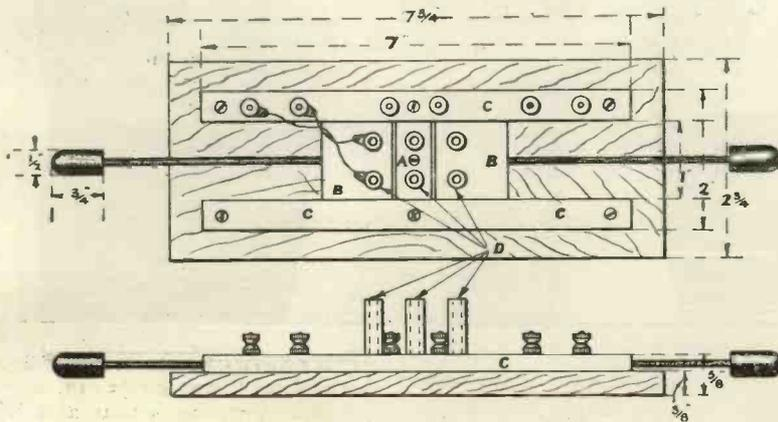
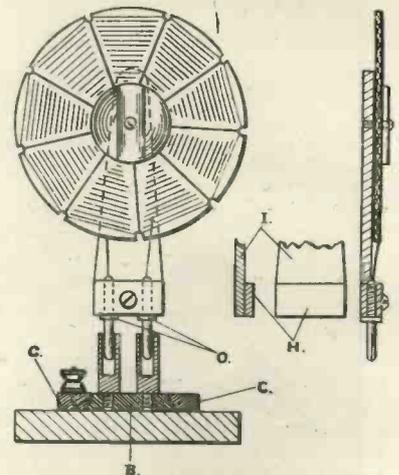

Fig. 1.—Plan and elevation of the tuning stand.
Fig. 2.—Cross-sectional view.
Referring to the sketches, Fig. 1 is the plan and elevation of the instrument, and Fig. 2 a cross-sectional end view with a coil-
holder inserted. In Fig. 1 there are the usual three holders, the stationary one in the centre marked A and the moving ones B, B on each side of it. B slides in a groove which the two strips C, C provide. This is more clearly seen in Fig. 2.
The following material will be required:—Six terminals, six valve legs, a few odd pieces of ebonite, twelve tags (these can be cut from sheet brass to the sizes given in Fig. 1), two brass rods  $3\frac{1}{4}$  in.
them to shape shown in Fig. 1, boring the holes for the rods, and finally tapping them. The three holders will then be completed.
**A Coil Holder.**—A coil holder suitable for mounting various classes of coils such as basket and slab inductances is shown in the upper part of Fig. 2. The height of the holder will depend on the size of the coil to be mounted, but the other part has definite sizes. The material required for one holder is as follows:—Two valve pins, pieces of  $\frac{3}{8}$  in. ebonite, and two screws.